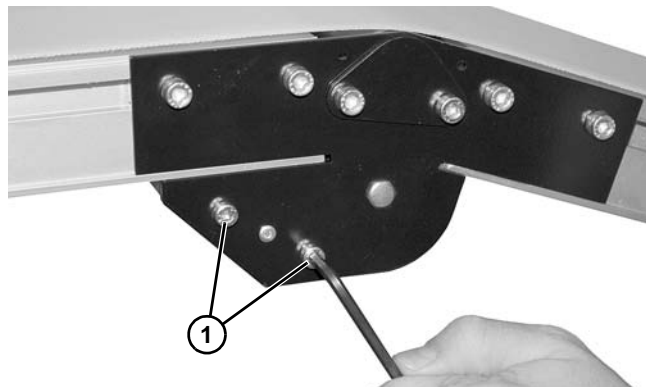

**Figure 63**
5. Remove screws (**Figure 63, item 1**) and remove guard (**Figure 63, item 2**) on both sides of knuckle.
6. Remove screw (**Figure 63, item 3**) and remove roller bearing assembly (**Figure 63, item 4**) on both sides of knuckle.